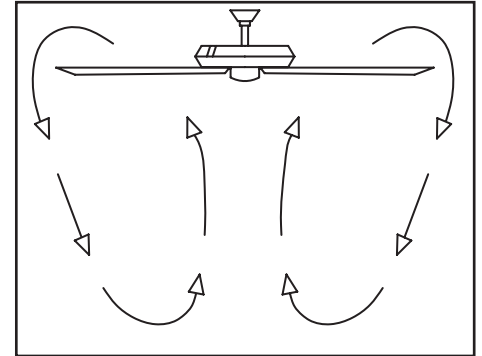

Figure 20
**Cool weather** - (Reverse) An upward air flow moves warm air off the ceiling as shown in Figure 20. This allows you to set your heating unit on a lower setting without affecting your comfort.